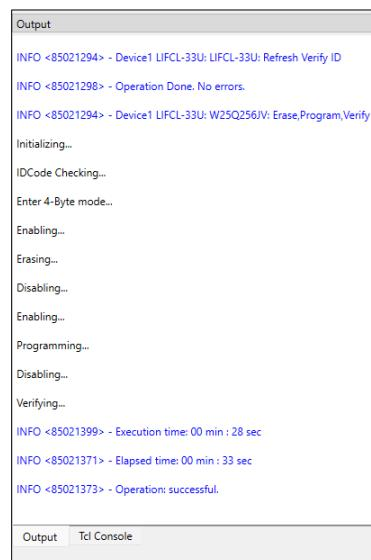

Figure 5.34. Message on Successful Programming
- Verify that the programming status displays *Operation successful* in the output window, as shown in Figure 5.34. To activate the flashed bitstream, power cycle the device.